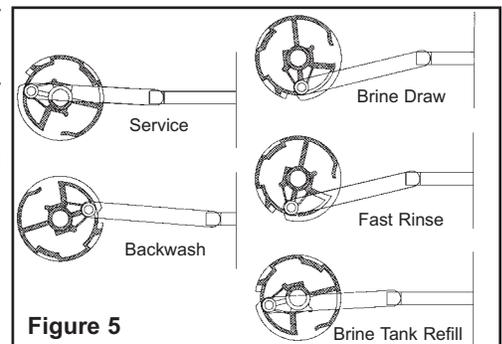

Figure 5
- Manually turn the Manual Backwash Knob on the timer slowly through backwash, brine draw, fast rinse to the Brine Tank Refill cycle. Once in the Brine Tank Refill cycle, allow valve to fill tank automatically. The correct amount of water is automatically metered into the air check tube in the brine well into the brine tank. The Brine Tank Refill cycle can be located by observing the drain line and watching the movement of the piston gear (see figure 5) on the valve. These cycles are as follows: